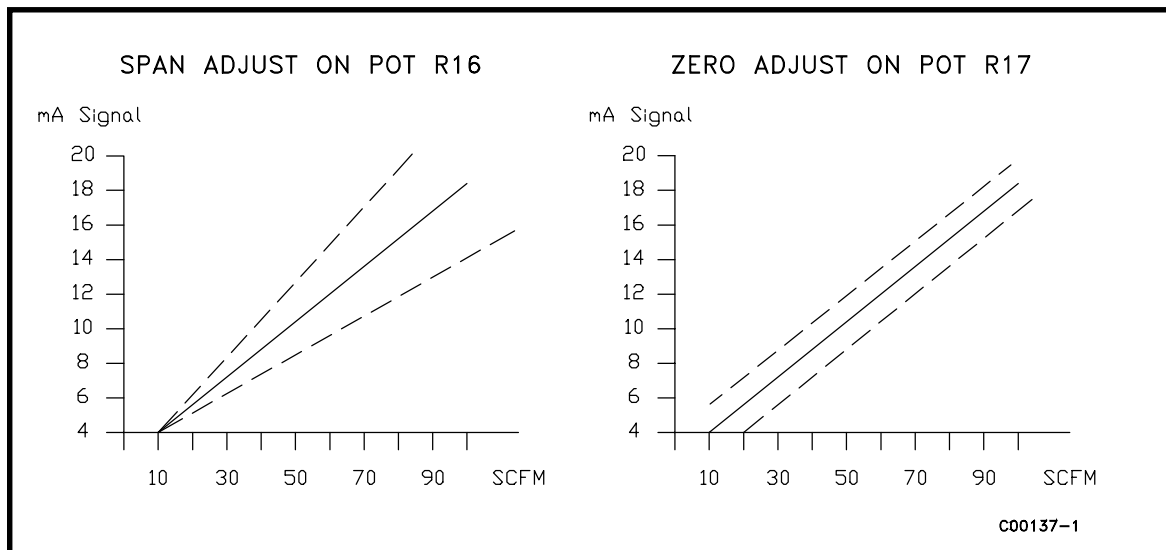

Figure 3-3. Zero and Span Adjustment
9. Set the head-selector, SW2, to the number of sensing points in the system. The flowmeter can be reset to the factory set calibration with the use of the original jumper setup. The originally installed jumpers are J1, J3, J5 and J7. The above span and zero adjustments are not in effect when the flowmeter is in the original configuration. The factory set calibrations are in control of the flowmeter. Table 3-1 shows the jumper settings that are needed to make the zero and span adjustments active. Figure 3-3 shows the zero and span effects on the flowmeter.